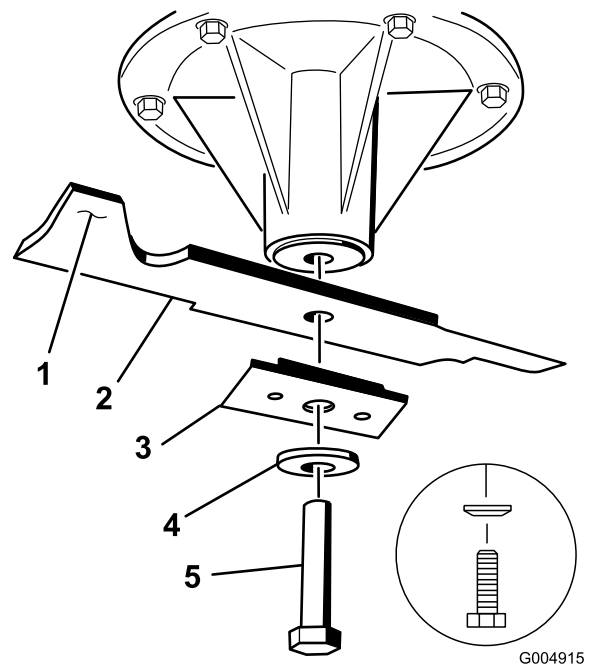

Figure 64
3. For 52-inch mower decks, remove the blade bolt, curved washer, blade stiffener, and the blade from the spindle shaft (Figure 64).
3. For 52-inch mower decks, install the blade, stiffener, curved washer, and the bolt (Figure 64).